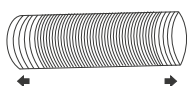
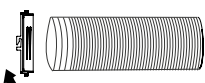

Fig. 1
Fig. 2
- 1 Extend either side of the hose (Fig.1) and screw the hose inlet (Fig.2).